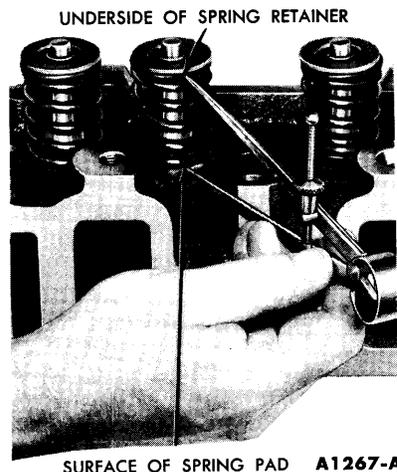

FIG. 41—Valve Spring Assembled Height
4. Measure the assembled height of the valve spring from the surface of the cylinder head spring pad to the underside of the spring retainer with dividers (Fig. 41). Check the